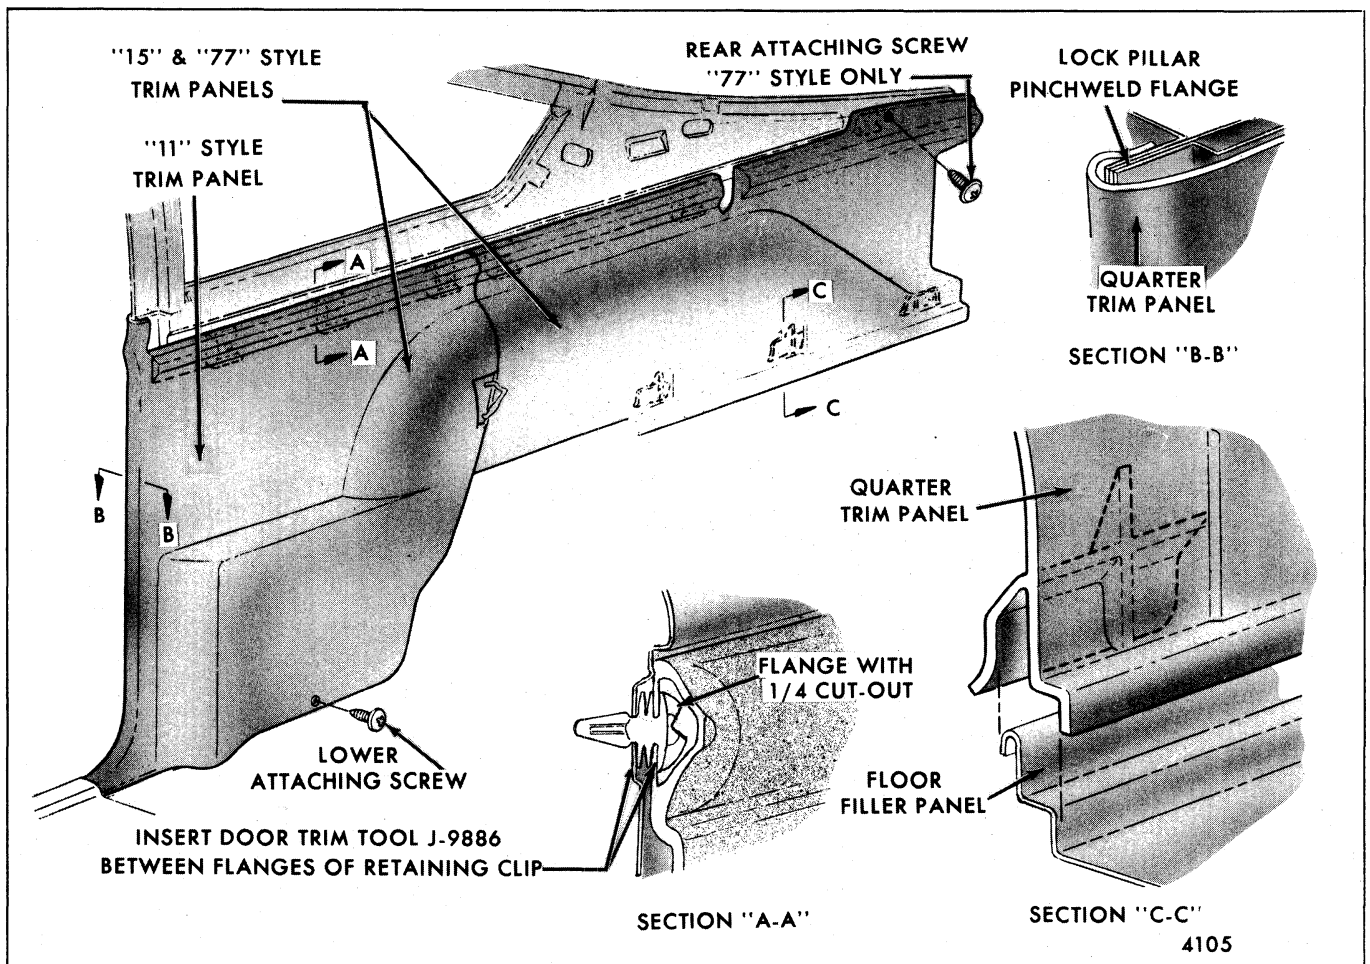

Fig. 6-9-"H-11,15 and 77" Rear Quarter Trim Assembly ("H-07" Similar)
2. If removing front trim assembly, remove lower attaching screw (see Fig. 6-9). If removing rear trim assembly on "77" style, remove rear attaching screw (see Fig. 6-9).
3. At top of trim assembly, carefully insert trim removal tool BT- 7323 or equivalent between flanges of trim assembly retainer (see Section "A-A", Fig. 6-9) and carefully pry retainer out of hole in rear quarter inner panel - perform this operation at all retainer locations (see Fig. 6-9). Retainers on "07" style are located at rearmost portion of quarter trim.
If removing rear trim panel, pull panel rearward to disengage front of panel from under rear of front trim panel; then lift panel upward to disengage lower retainers from floor filler panel (see Section "C-C", Fig. 6-9) and remove trim assembly.
- a. Trim assembly retainer replacement - start retainer flange with 1/4 cut-out (see Section "A-A", Fig. 6-9) into attachment hole in trim assembly; then rotate retainer until flange with 1/4 cut-out is inside of attachment hole.